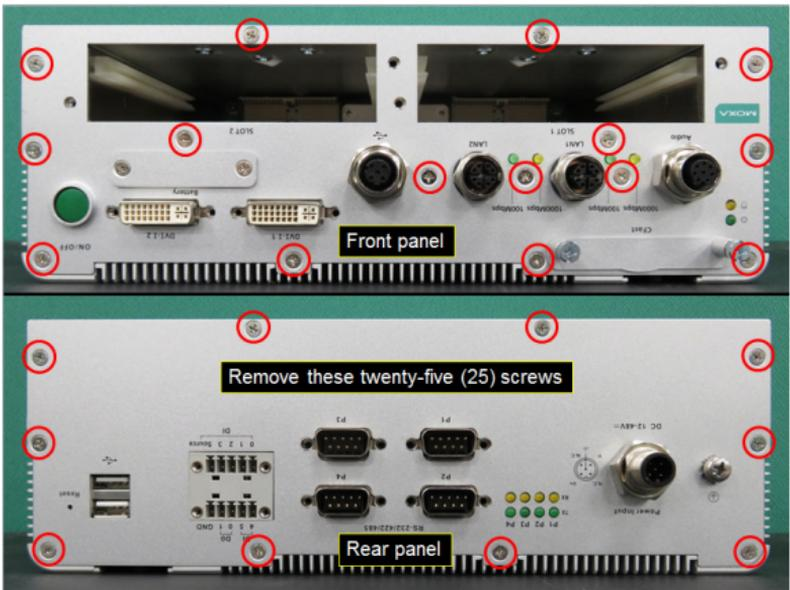

Figure 4
4.1.4 Use a Phillips screwdriver (item 1 in Table 2) to remove the twenty-five (25) screws (indicated with red circles) on the front and rear panels as shown in Figure 4. After removing the screws, place the V2426A such that its rear panel is facing towards you.